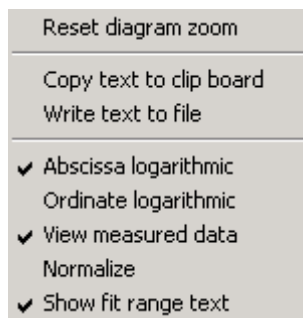
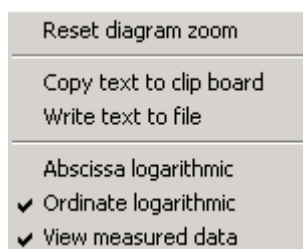

Fig. 106 Context menu of the Fit Correlation diagram
Fig. 107 Context menu of the Fit PCH diagram
- Click on the diagram with the **right** mouse button to open the context menu for the **Fit Correlation** (Fig. 106) and **Fit PCH** diagrams (Fig. 107), respectively.